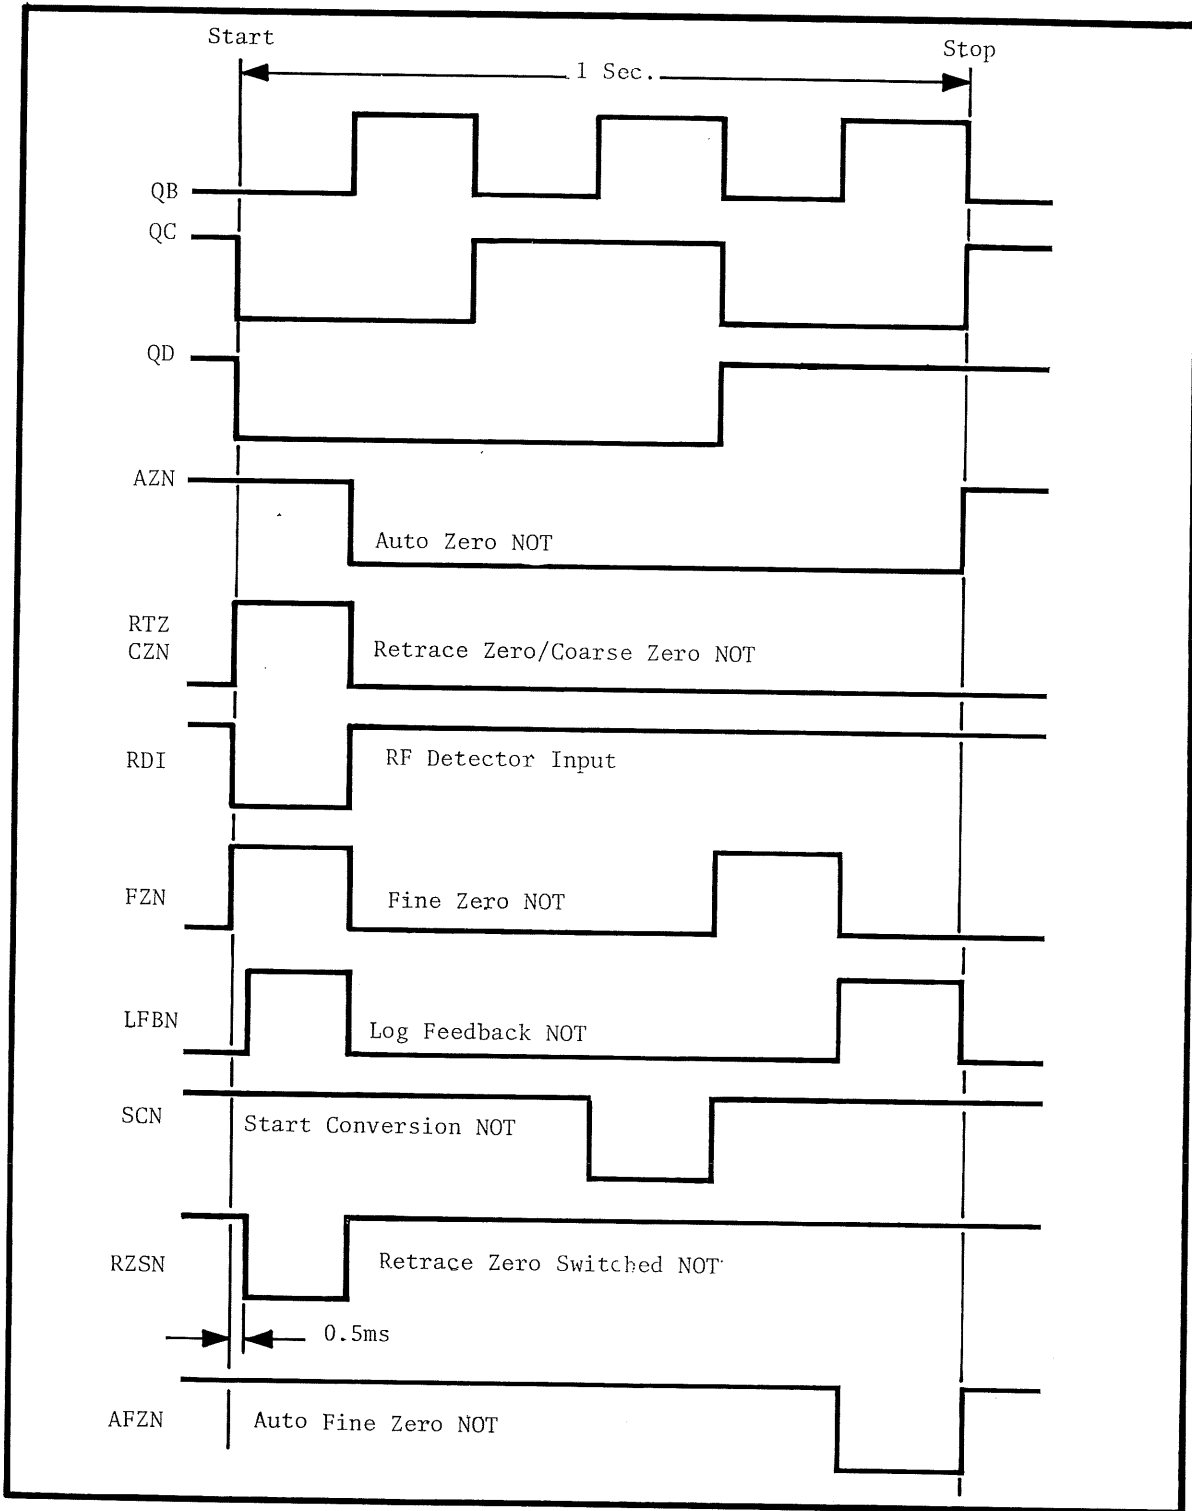

Figure 5-5 Auto Zero Timing Diagram
If the RF is not turned off during retrace, it becomes necessary to take into account the parasitic thermal potentials of the detector diode. As said before, if the RF is off the system will automatically zero itself without adjustment on the part of the operator. In the event that the RF remains on or partially on during retrace, it becomes necessary for the operator to periodically turn off the RF manually. This can be done through the bus or by physically turning off the power from the sweeper. Then, the Auto Zero button on the front of the N10 unit is pressed. This causes the N10 to go through a cycle of events to read the dc voltage on the detector. When the Auto Zero button is pressed, the circuitry performs a normal retrace zero (just discussed) wherein the voltage on capacitor C72 is updated and the N10 is properly zeroed with U30 switched to ground. The cycle is then repeated with the detector in the circuit so that the second zero will take into account any parasitic thermal voltage from the detector. In order to do this, the first part of the cycle is a coarse zero which makes use of successive approximation register U2 and DAC (Digital to Analog Converter) U3. U3 is fed through U10A (part of the DAC) and then back through switch U18 and R34 to correctly zero the Preamp in the coarse mode. U2 is triggered and goes through a successive approximation (normal A to D conversion) with U1B monitoring the voltage at the output of U19D through R74. (C74 eliminates noise spikes.) The successive approximation goes rather slowly, with each step taking 1/16th of a second. (See Figure 5-5 for the Timing Diagram.) All of the above occurs after the Auto Zero button has been pressed. A signal comes into the Preamp through pin 6 from the N10 microprocessor that says an Auto Zero is required. When the
Refer to Figure 5-5, Auto Zero Timing Diagram, for the logic associated with the Auto Zero function. The logic is basically a clocking sequence which is counted down through U15A and U15B (a 16 Hz signal is used as the trigger frequency to operate the successive approximation register). A series of signals are derived that allow various events to take place. U15A & B are counters, and U23 is a state decoder which selects three modes of operation. U23 allows: (1) retrace zero, then (2) the time interval for the coarse zero cycle, then (3) a one second time interval for the fine zero cycle. U16A, B, and C comprise a three bit comparator. The output of this array is true if the three most significant bits of U2 are equal. This will happen if the correction called for is at the extreme limits of either end. In other words, if it is desired to have one polarity of correction to equal an all true (1's) condition out of U10A, the opposite polarity of correction would equal an all false condition (0's). This indicates that the DAC is at the farthest limit of its ability to correct. This logic signal is fed to pin 12 of U17A (Zero Error). A Zero Error would be indicated if the operator left the RF on when trying to zero the N10 and the signal was too large for the instrument to correct or, if an unused channel were left on that did not have a detector attached. Then the zeroing process would have to be repeated after the RF was removed or the unused channel turned off. The final output of U23 (pin 6 - indicates zeroing process is over) will clock U17A. This means that the "Zero Error" will set U17 to produce an output that does two things: (1) connects an output signal called "Zero Lamp Off" (pin 9 at the input of the Preamp) through U8C and D to a 4 kHz clock from U15A. This causes the front panel "Auto Zero" lamp to start flashing to indicate